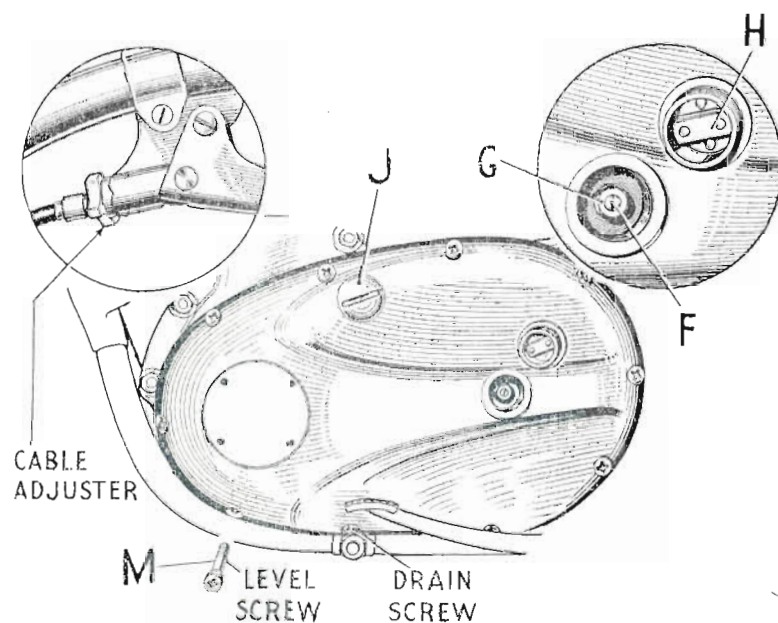

Fig. 14. Clutch adjustment and chaincase oil level.
Barracuda engine.—On these models an adjustable slipper type tensioner is provided. The chain slackness can be tested with the fingers through the aperture, after removal of the inspection cap (J) Fig. 14. The chain is in correct adjustment when there is a minimum of $\frac{1}{8}$ in. and a maximum of $\frac{1}{4}$ in. of free play at the mid-way position between the sprockets.
The main adjustment consists of a screw pin (F) and locknut (G) mounted on the clutch pressure plate. These are accessible after removal of the inspection cover (H) Fig. 14.
The outer cover is retained by screws of three different lengths, and one of these (M) Fig. 14, which is painted red determines the oil level. To replenish with oil, first remove this screw and then the inspection cover at the top of the chaincase. Add oil of the correct grade (see 'Recommended Lubricants', page 36) and allow to stand until any surplus oil has drained away. Replace the level screw and inspection cap. The machine should be on horizontal ground when this operation is carried out. Note that the screw behind (M) is also painted red and is used for drainage purposes.